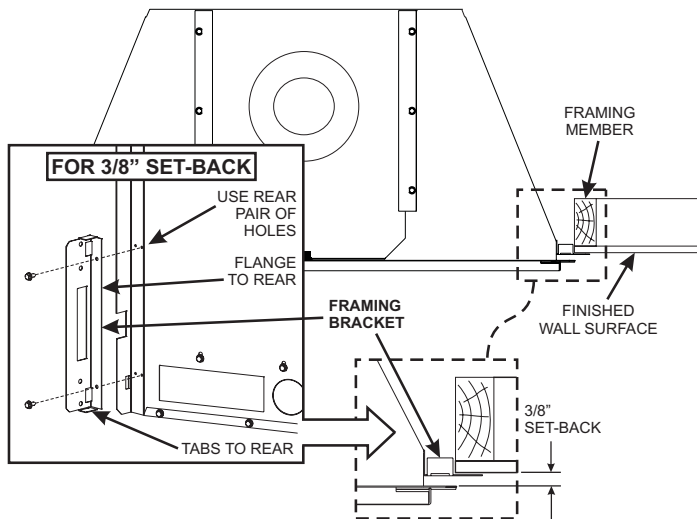
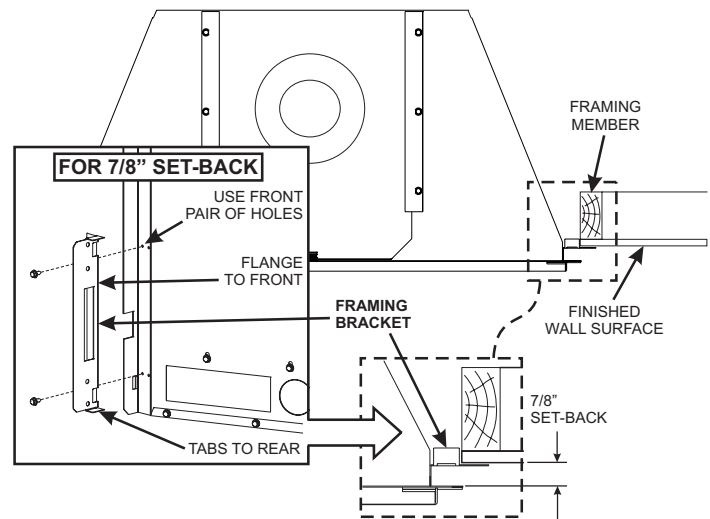

Figure 9a
Figure 9b
4. Install the side Framing brackets (1 per side) using the pilot holes provided behind the side flanges on the fireplace outer wrap. Two setback locations are provided for locating the framing brackets depending on which decorative surround is to be installed. **See Figures 9a and 9b.** The pilot holes in the forward position should be used if installing the fireplace after the finished wall surface is present. The rearward hole position should be used to install the fireplace directly to the framed opening, prior to installing the finish wall surface. The framing bracket locations are based on using 1/2" thick surface finishing materials over the framing. **See Figure 9.**
Note: Use **Figure 9a** to locate the nailing flanges if installing a DS(25,33)66BL surround accessory. Use **Figure 9b** to locate the nailing flanges if installing a DF(25,33)M4 series surround accessory.